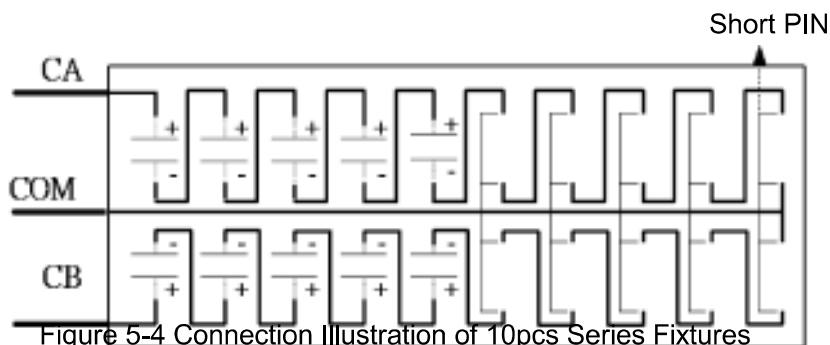

Figure 5-4 Connection Illustration of 10pcs Series Fixtures
- 1 The connected capacitor quantity under test needs to be even numbers. The capacitor quantity under test is less than 20pcs, the outlets unconnected DUT need to connect to short PIN. *Figure 5-4* is the connection by using series fixture and test capacitor quantity is 10pcs, the former 10 sockets are for placing DUT and the latter 10 unused sockets are for placing short PIN.